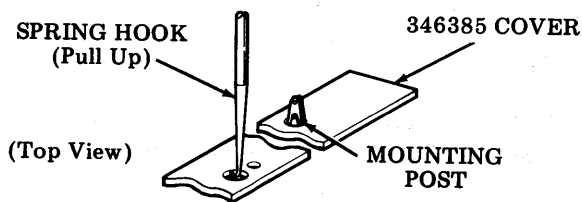

Fig. 16—Cover Removal
- (d) Remove the circuit card cover located in front of the control keys from the channel. Use a spring hook to remove the cover from the mounting posts (Fig. 16).